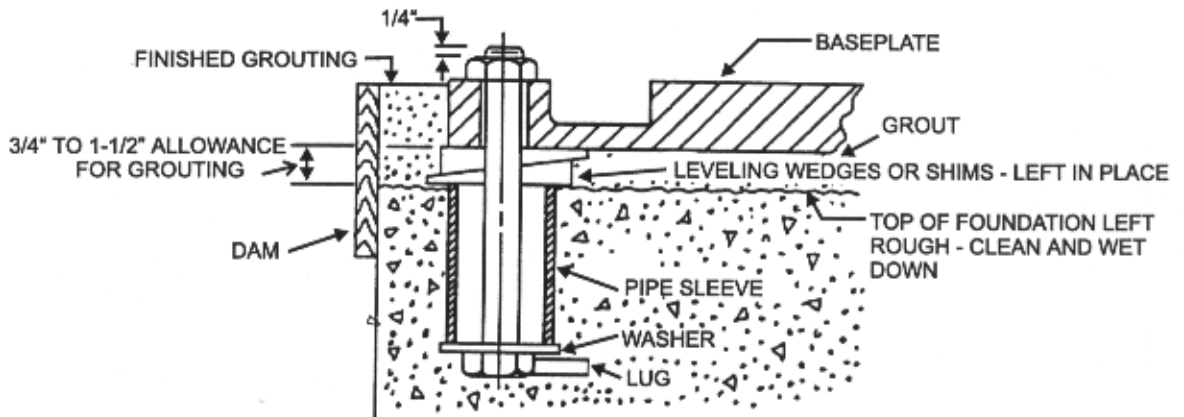

Figure 2. Grouting and Foundation Bolting
Hydraulic Institute (HI) recommends a foundation capable of absorbing vibration at least five times the weight of the pumping unit and to form a permanent, rigid support for the base plate. It is important to maintain the alignment for a flexible coupled unit. A concrete foundation on a solid base is recommended with foundation bolts of the proper size embedded into the concrete. A pipe sleeve larger in diameter than the bolt should be used to allow movement for final positioning of the bolts, refer to Figure 2.
1. Tightened foundation bolts evenly but not fully, refer to Figure 2.